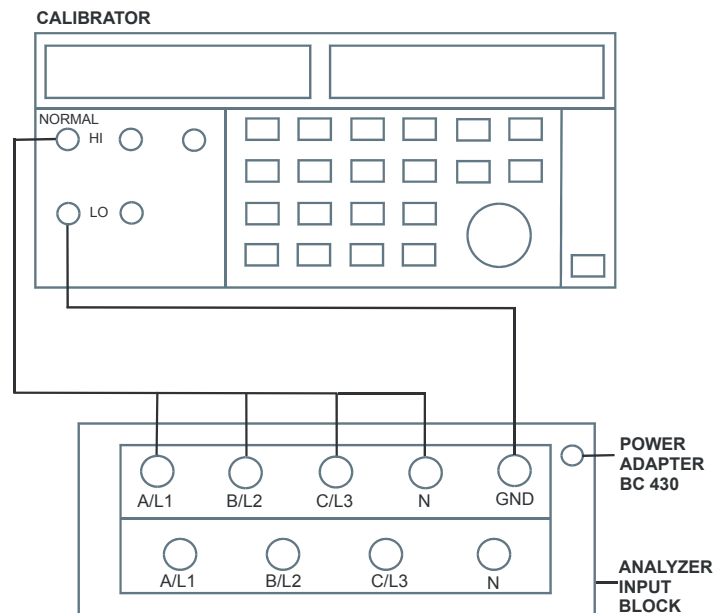

Figure 4-4. Checking the N (Neutral) voltage input
2. To check the N input, connect the N input with the adjacent C/L3 input. A/L1, B/L2, C/L3 now will give zero reading. Refer to Figure 4-4.
11. Connect the N input with the C/L3 input (See Figure 4-4). A/L1, B/L2, C/L3 now give zero reading.